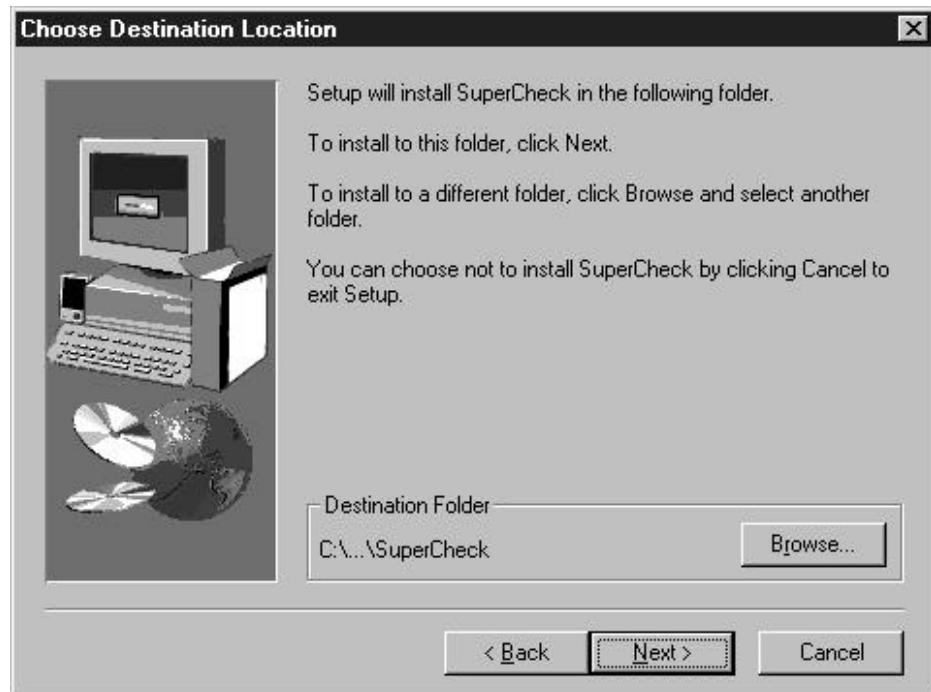

Figure 19: “Choose Destination Location” window
- 6) When the “Choose Destination Location” window (see Figure 19 below) comes up, choose a directory to install this component.